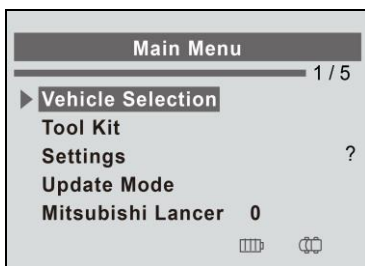

Figure 4.1
- 1) Use the **UP/DOWN SCROLL** button to select **Vehicle Selection** from **Main Menu** (Figure 4.1), and press the **Y** button to confirm.